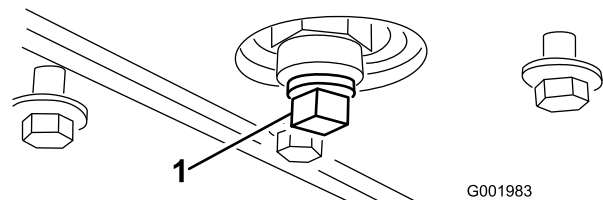

Figure 47
5. Remove the drain plug (Figure 47).